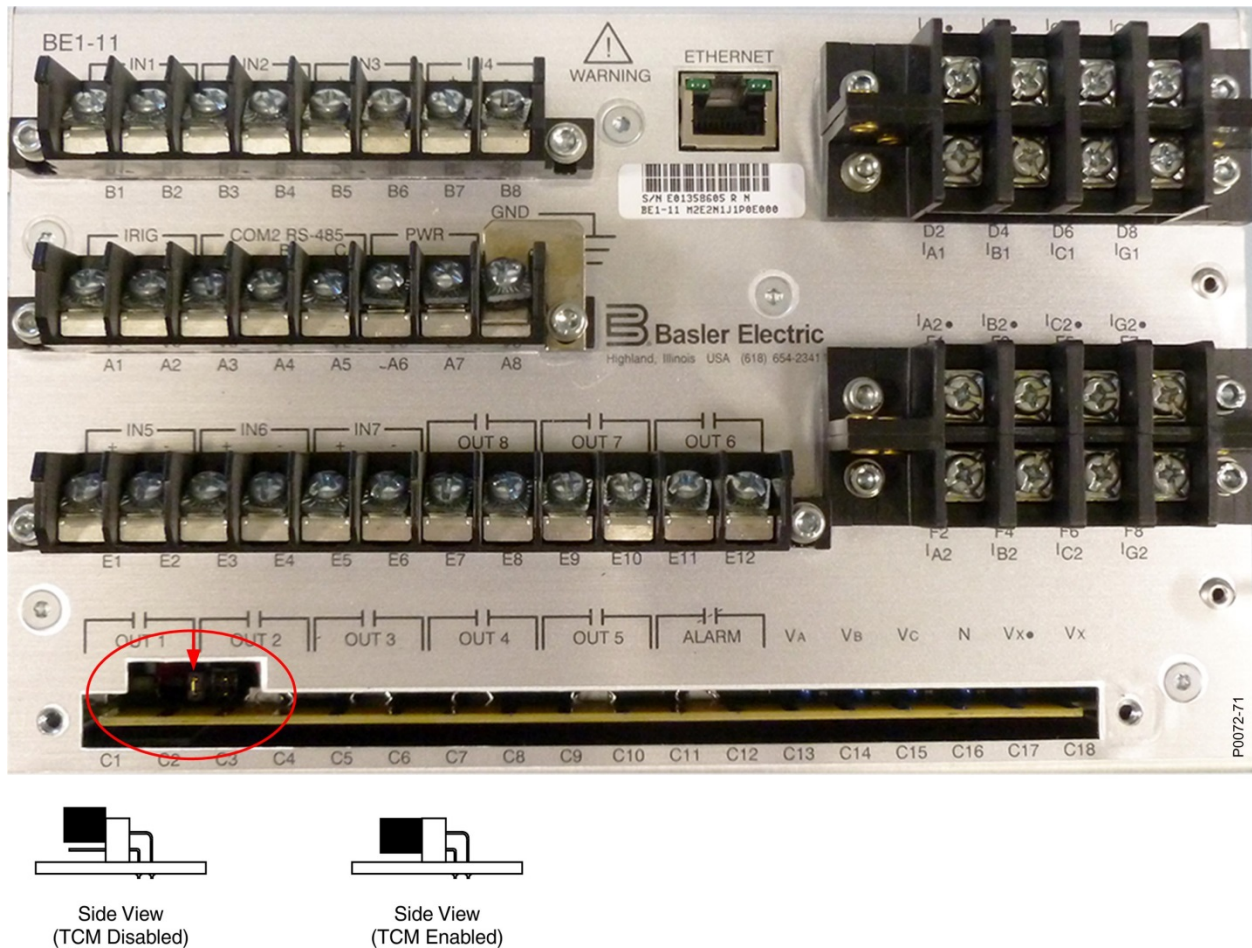

Figure 37-4. Trip Circuit Monitor Enable/Disable Jumper Location
2. Locate the jumper terminal block that is mounted on the left side of the circuit board. The terminal block has four pins. With the jumper as installed at the factory, the jumper should be connected across pins 1 and 2 (left side) when viewed from the back of the unit. This jumper configuration enables the trip circuit monitor. Figure 37-4 illustrates the location of the jumper terminal block as well as the position of the jumper connected.